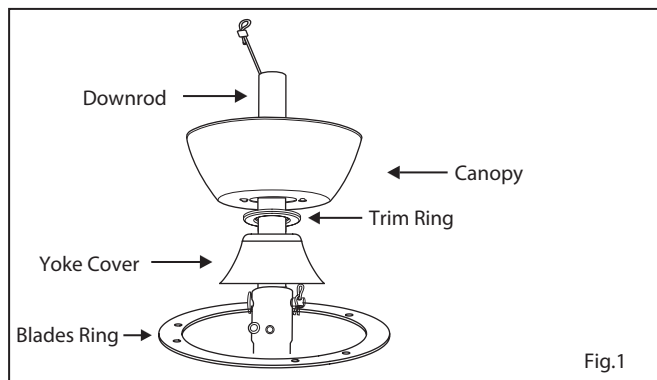

Fig.1
- 1 Remove ball from downrod by loosening set screw in the side of the ball. Slide ball down and remove ball pin; remove ball. (Fig. 1)
- 1 Insert the receiver into the ceiling mounting bracket with the flat side of the receiver facing the ceiling. (Fig. 1) For best performance, make sure the Black Antenna, on the end of the receiver, remains extended and not tangled with any of the electrical wires.
- 1 Select a desired location. Use the wall plate to mark the location of the mounting holes. Plastic wall anchors or mounting screws are needed for this application. (Fig. 1)
Remove the panel from the transmitter and then install one 2032 battery (included). You need to use a coin to open or close the battery cover. To prevent damage to transmitter, remove the battery if not use for long periods of time (Fig. 1)